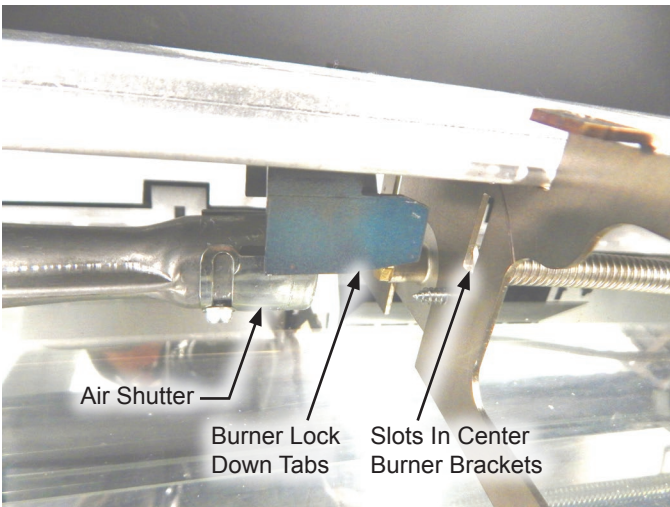

Figure 5
11. The Burner assembly can now be shifted to the left about 1 inch to release the air shutter off of the orifice holder. The outer burner brackets may need to be gently tapped to the left to assist in the burner to move to the left. There are (4) burner lock down tabs under the center of the burner assembly. These tabs interlock with slots in the two center burner brackets. **See Figure 5.** Once these tabs are unlocked from the center burner brackets, the Burner assembly can be lifted upward a few inches to gain access to the orifice and air shutter. It is recommended that the burner assembly be supported.